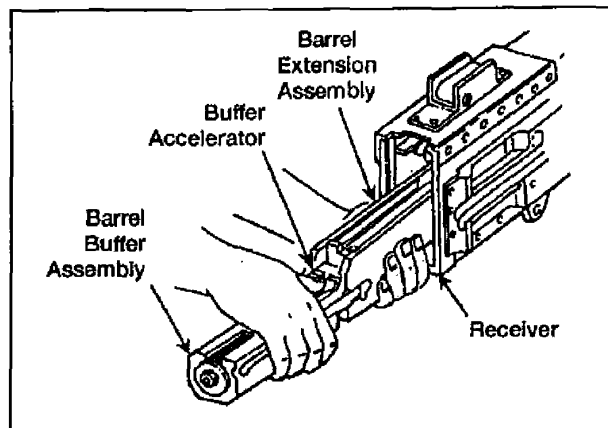

Figure 071-022-0001-29. Installation of the barrel buffer and barrel extension assemblies
(1) Attach firing pin to firing pin extension assembly (figure 071-022-0001-30).